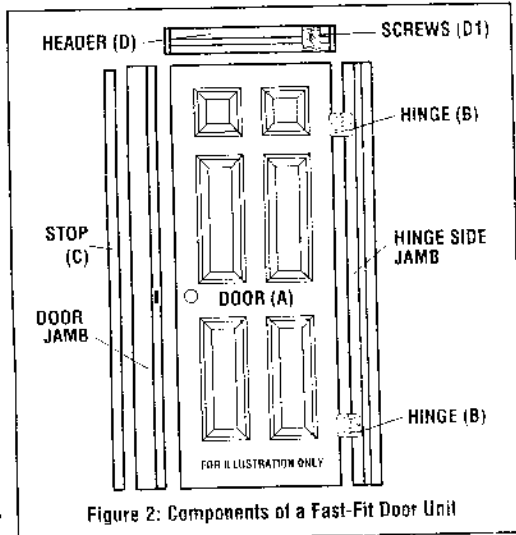

Figure 2: Components of a Fast-Fit Door Unit
- 1) Door (A) comes pre-machined for a 2-3/4" backset 2 hinges and interior passage set (Fig. 2).
- 2) Hinge-side jamb (B) with door stop attached. The hinge locations are pre-cut to accept the reversible butt hinges.
- 3) Lock-side jamb mortised for the strike plate. This jamb is reversible and the doorstop (C) is easily changed depending on the swing of the door.